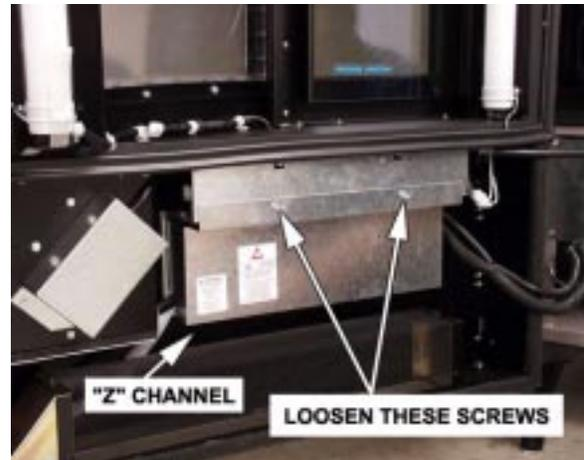

Figure 27
1. The two black painted screws in the “Z” channel under the lower door electronics assembly hold the lower door electronics assembly secure against the door front. Loosen the two screws about 1 turn each (you may need to loosen them up more later) (figure 27).
2. Loosen the two screws that secure the cover. Remove the cover by sliding it to one side and pivoting it down and towards you (figure 27).